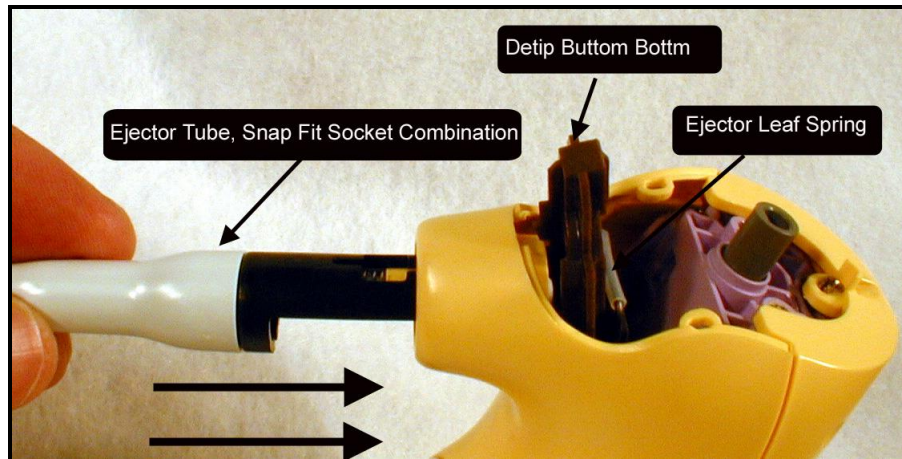

Figure 13 Install Ejector Tube / Snap Fit Socket
24. Install the Ejector Tube, Snap Fit Socket combination into the Upper body assembly as shown in Figure 13.